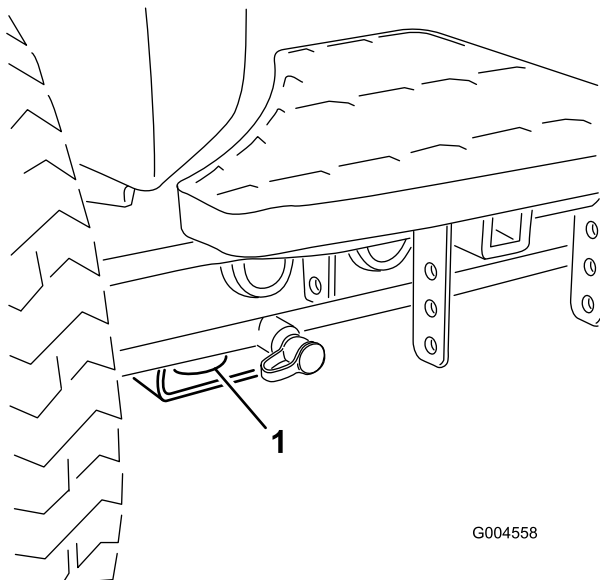
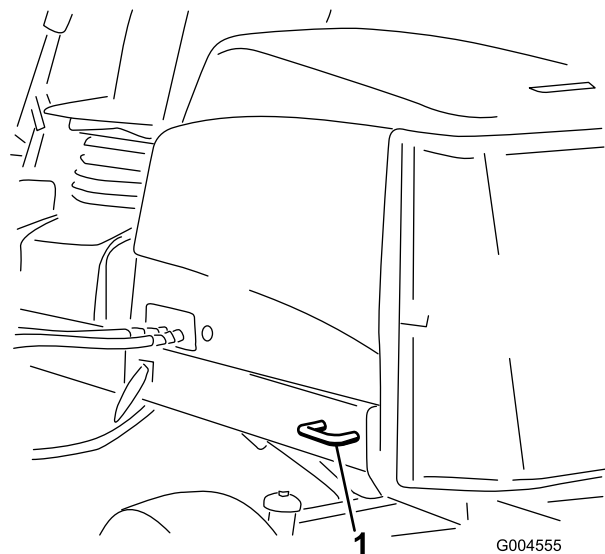

Figure 37
Figure 38
5. Use the metal tie-downs on the machine to securely fasten the machine to the trailer or truck with straps, chains, cable, or ropes (Figure 37 and Figure 38).
- Front—the hole in the rectangular pad, under the axle tube, inside each front tire (Figure 37)
- Rear—each side of the machine on the rear frame (Figure 38)